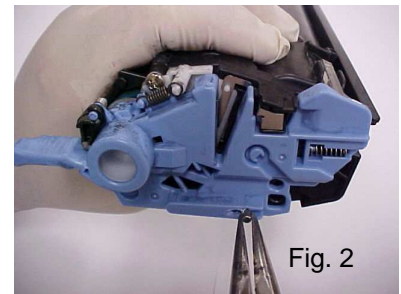

Fig. 2
2. Pull out the metal cartridge pin with needle nose pliers (Fig. 2).